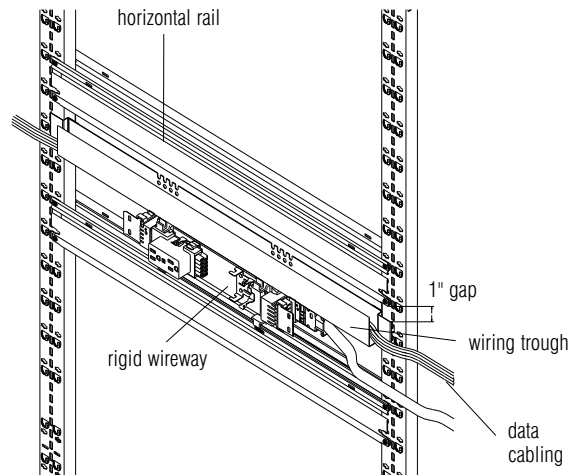

Figure 63
1. Hang the trough in the slots in the vertical approximately 1" below the horizontal rail. This allows room for a rigid wireway and data jacks below the trough. Data cabling is simply laid into the trough. **Figure 63.** Troughs can be used back-to-back.